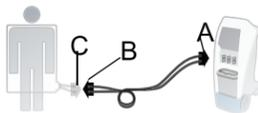

Figure 1 –
- Connect the hose (A) to the controller hose connection port (Figure 1).